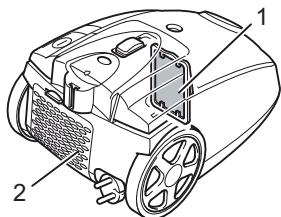

Fig. 23
■ Motor protection filter (Fig. 23/1)
■ Hygienic exhaust filter (Fig. 23/2)